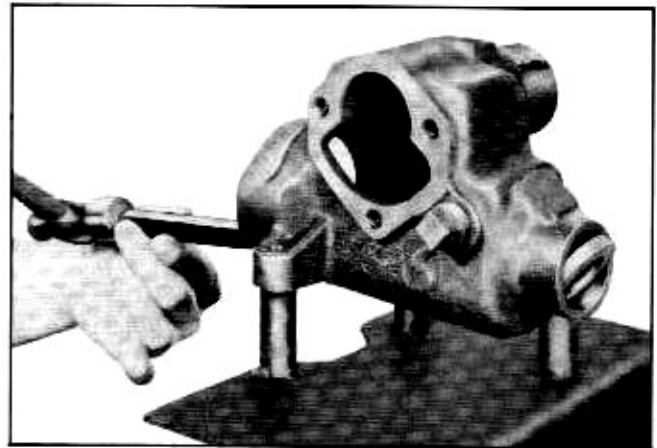

Fig. 9-25 Removing Upper Bearing Seal
1. Remove upper bearing seal by driving out with suitable punch (Fig. 9-25).